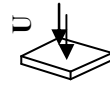

Fig 7
10. There are fascia boards for the front and rear of the arbour. The straight edge should be fixed flush with the lower edge of the roof sections. Fix these in place using screws **T** as shown in Fig. 7.
11. Fit the finials front and back using screws **U** as Fig 7.